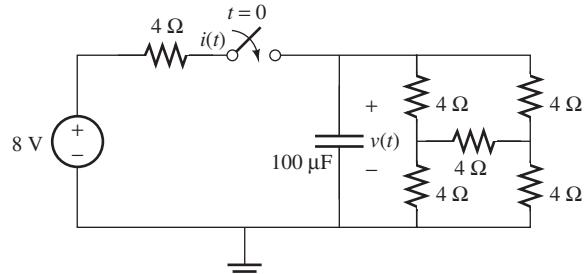

FIGURE P5.58 Circuit for Problem 5.58.
- 5.58** (A) Consider the circuit shown in Figure P5.58. The switch closes at $t = 0$, find $v(0^+)$, $i(0^+)$, and $v(\infty)$ using PSpice.